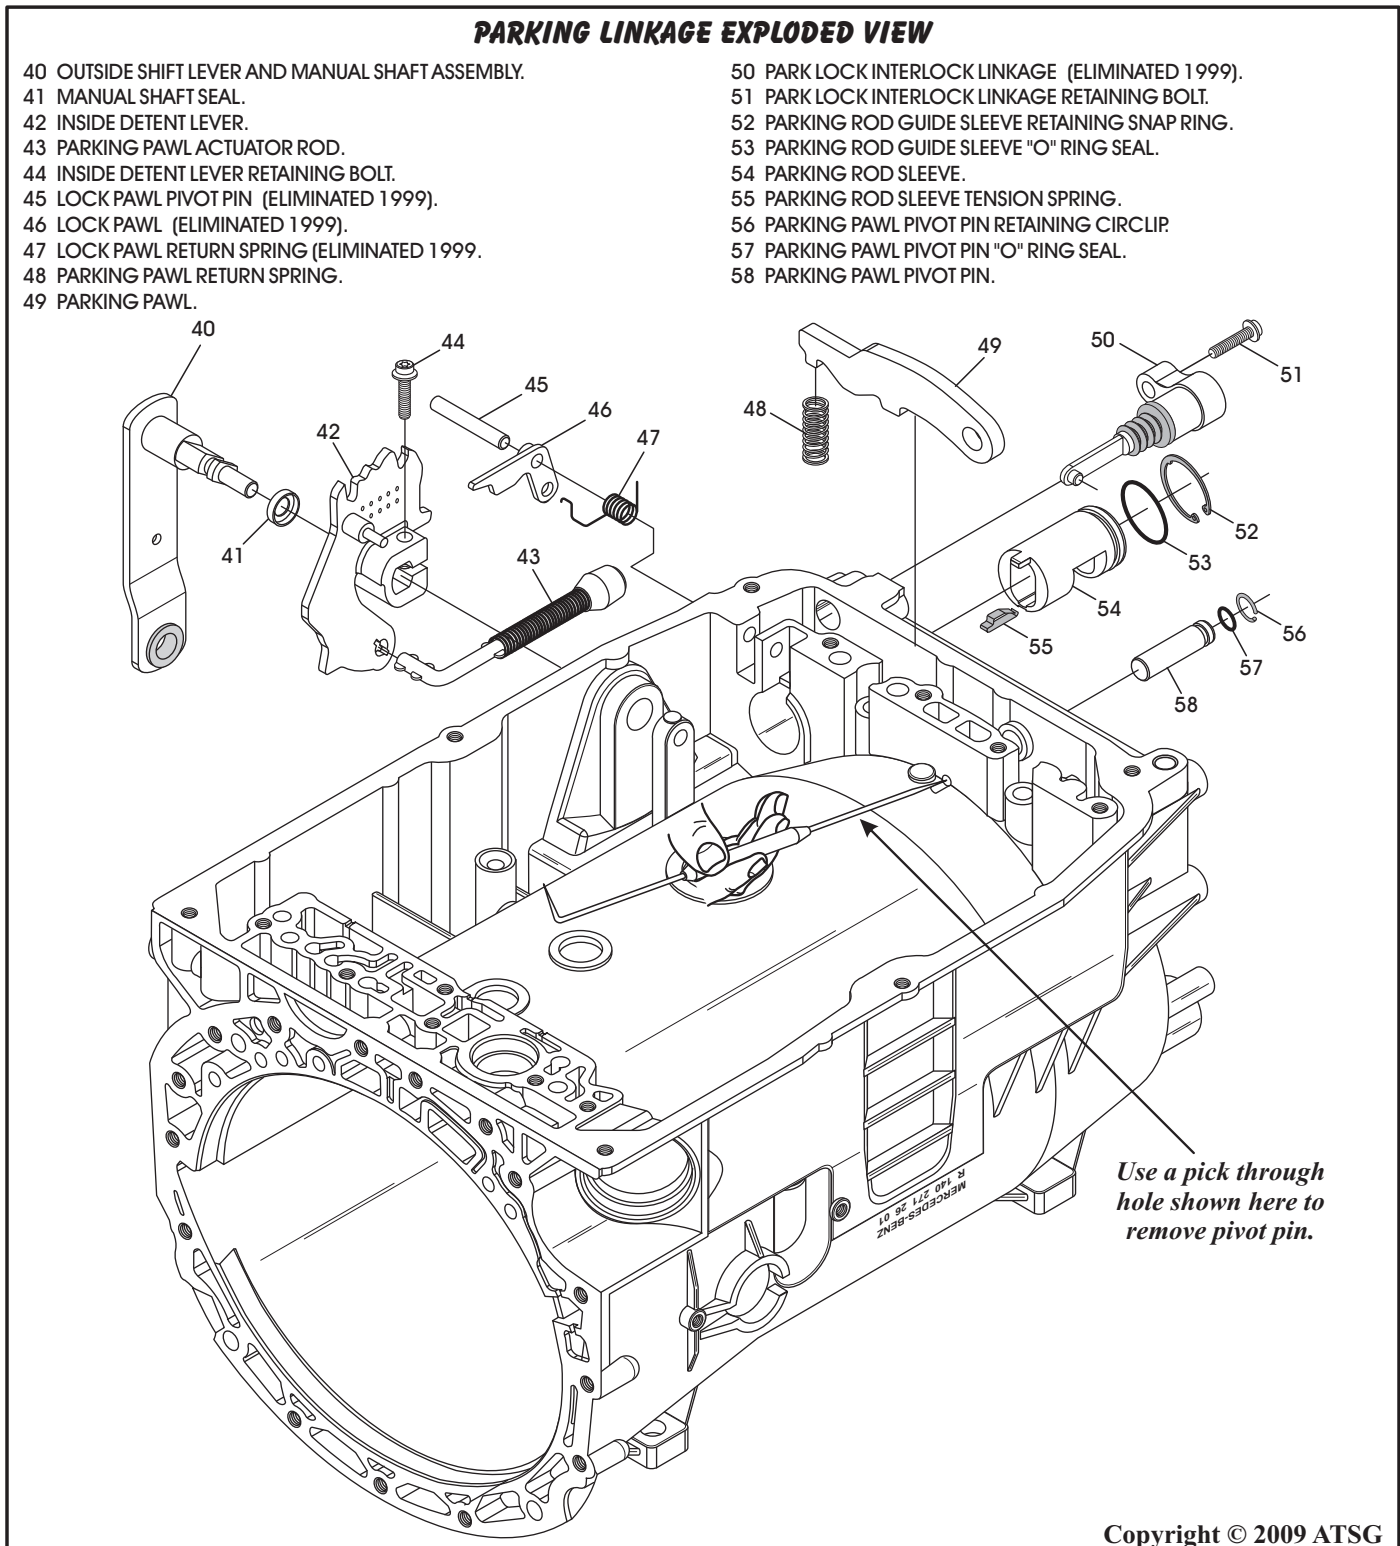

Figure 58
41. Remove outside shift lever and manual shaft from case, as shown in Figure 58.
- 42. Remove inside detent lever and parking rod as an assembly from case (See Figure 58).
- 43. Push the parking pawl down against the spring pressure and remove the parking rod guide sleeve (See Figure 58).
- 44. Use a pick through the hole in case, as shown in Figure 58, to push the parking pawl pivot pin out of case.
45. The Parking Lock Interlock Linkage (PLIL), as shown in Figure 58, cannot be removed unless you first remove the lock pawl pivot pin (45), lock pawl (46), and lock pawl spring (47).
3. Install parking pawl and return spring into the case, as shown in Figure 58.
4. Install new "O" ring seal on the parking pawl pivot pin, as shown in Figure 58, and lube with a small amount of Trans-Jel®.
5. Install parking pawl pivot pin into case bore and through parking pawl (See Figure 58).
6. Install new "O" ring seal on the parking rod guide sleeve, as shown in Figure 58, and lube with a small amount of Trans-Jel®.
7. Push down on the parking pawl against spring pressure and install parking rod guide sleeve into the case bore, with the tension spring on the guide sleeve facing away from pan rail, as shown in Figure 58.
9. Install the parking rod into the inside detent lever, as shown in Figure 58.
10. Install the assembly into the case with the park rod going into the sleeve, install the outside shift lever and manual shaft through the case and into the inside detent lever, as shown in Figure 58.